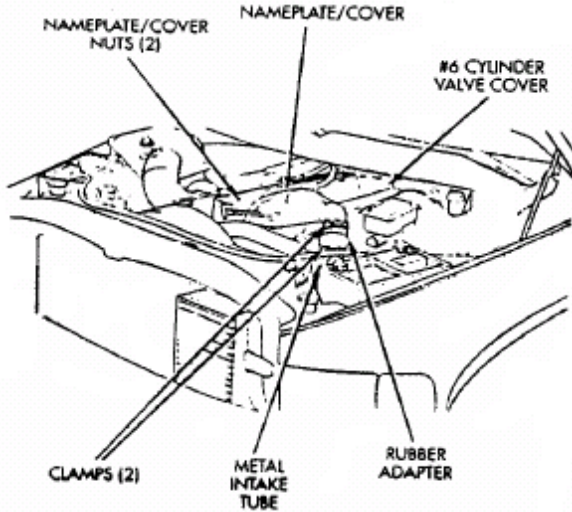

Fig 9: Nameplate/Cover - Diesel
- 2: Remove the nameplate/cover from the top of the six engine valve covers (two nuts) (Fig 9)